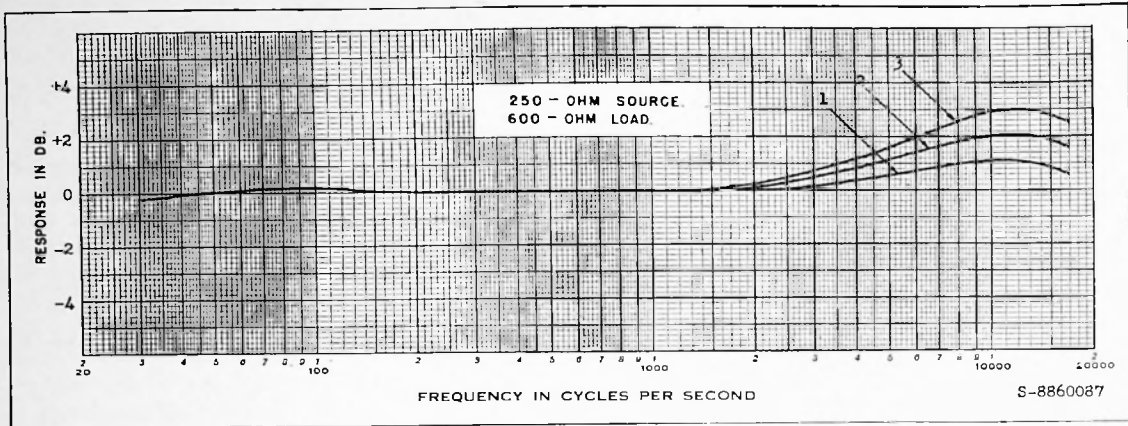
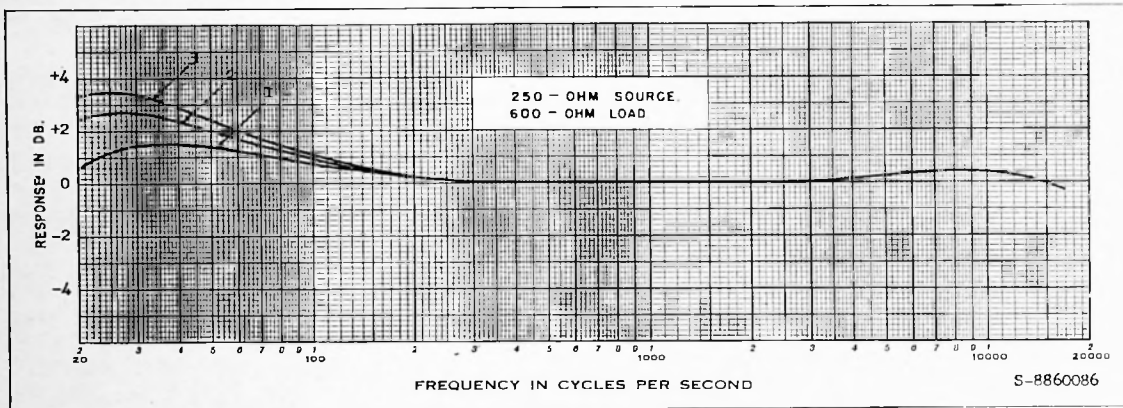
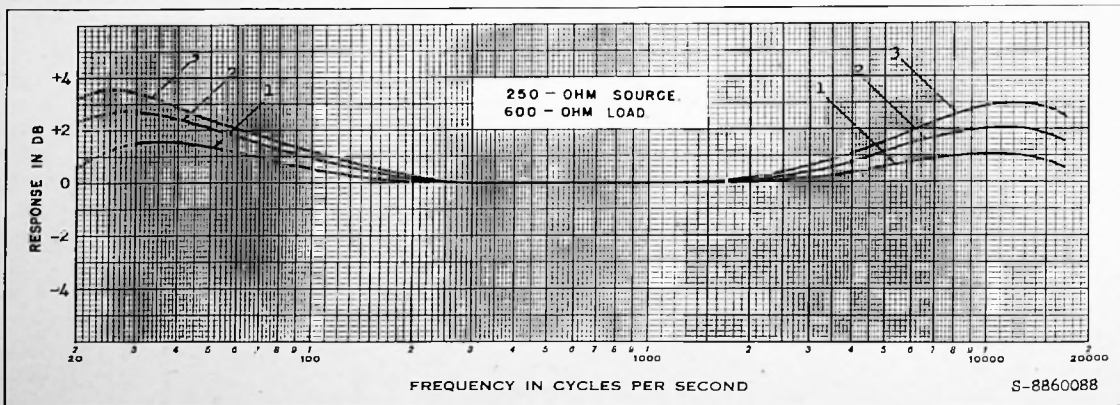

Figure 7—Frequency response with high-frequency compensation.
Figure 8—Frequency response with low-frequency compensation.
Figure 9—Frequency response with high- and low-frequency compensation.
27. Under certain conditions it may be desirable to provide additional gain at either the high-frequency or the low-frequency end of the audio range. Figure 7 and figure 8 show graphically the amount of increase that may be expected, while figure 9 illustrates the result of applying both high-frequency and low-frequency compensation in the same amplifier.
28. Three curves are shown in figure 7, numbered 1, 2 and 3. These curves illustrate the frequency characteristics of the amplifier after alterations are completed to increase the high-frequency response by approximately one, two and three decibels at 10,000 cps. To make these alterations proceed as follows:
29. The frequency-response in the low-frequency region can be increased approximately $1\frac{1}{2}$, $2\frac{1}{2}$ and $3\frac{1}{2}$ decibels at 30 cps by making the alterations described below. The frequency-response curves resulting from these changes are illustrated in figure 8.